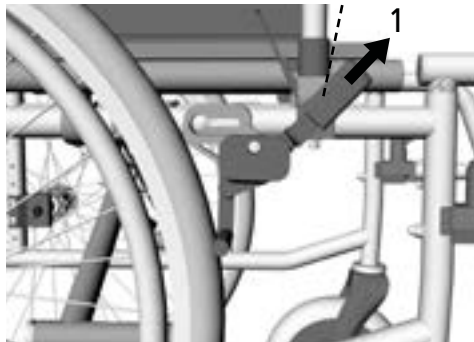

fig. 39
**To be performed by a specialist dealer:** The brake lever extension is used to make it easier to transfer force to the brake. (fig. 39)
1. Remove the standard brake lever by pulling it upwards (1). The mounting hole for the brake lever extension can now be seen.